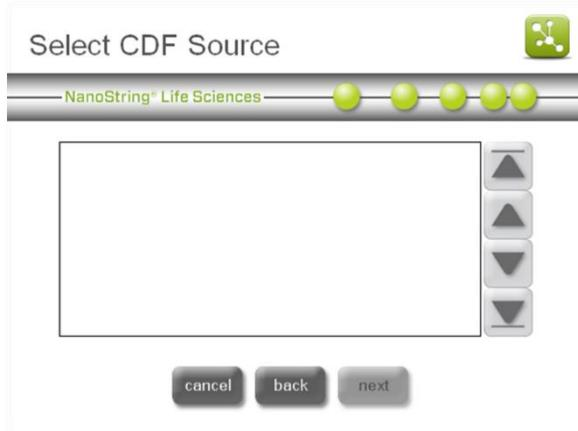

Figure 64: The ‘Select CDF Source’ screen.
3. Select **upload CDF**. The ‘Select CDF Source’ screen will appear (**Figure 64**).